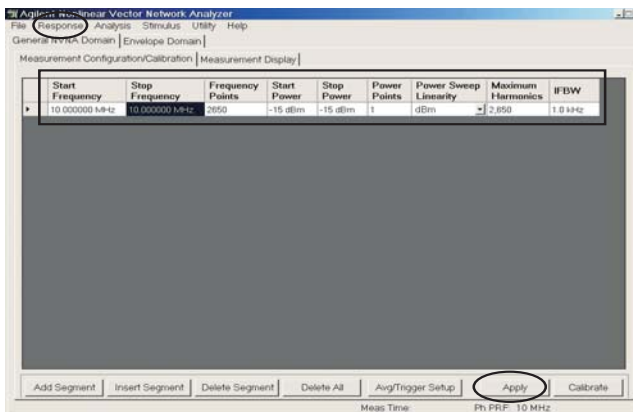

Figure 4-8 NVNA main menu
- 4 Click **Response** and select **Couple Segment** from Agilent Nonlinear Vector Network Analyzer main menu as shown in Figure 4-8.